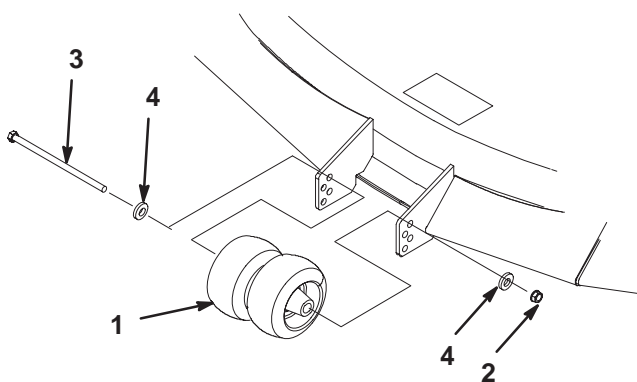

Figure 19
1. After adjusting height-of-cut, remove bolt, washers and nut (Fig. 19).
2. Select a hole position so the gage wheels are a minimum of 3/8 in. (9.5 mm) off the ground for the height-of-cut to be used (Fig. 19).
3. Reinstall the bolt, washers and nut (Fig. 19).